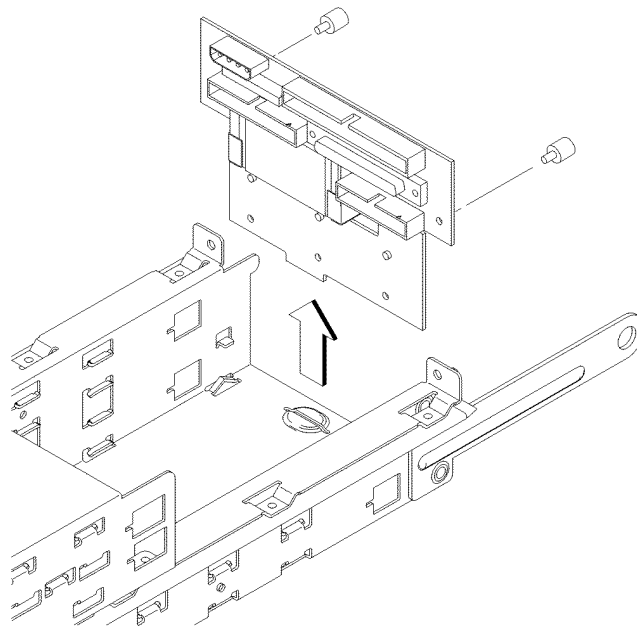

Figure 31 **Removing the Disk Interconnect Board**
- 1 Remove the two retaining screws, as shown in Figure 31.
- 3 Grasp the board and lift it straight up. See Figure 31.